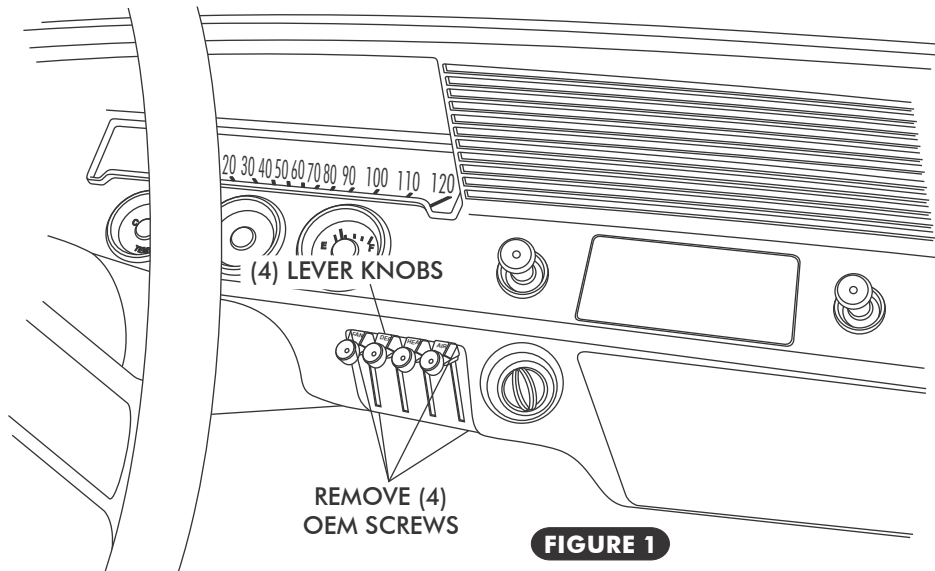

FIGURE 1
- ☐ REMOVE THE (4) OEM LEVER KNOBS AND THE (4) OEM MOUNTING SCREWS FROM INSTRUMENT PANEL OF DASH. SEE FIGURE 1 BELOW.